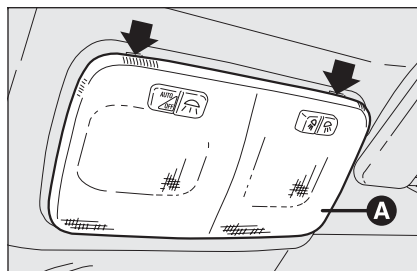
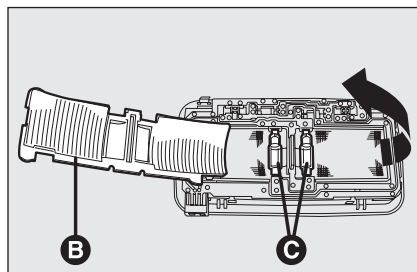

fig. 34
fig. 35
- ☐ work in the points shown by the arrows and remove light **A**-fig. 34;
- ☐ open the protection lid **B**-fig. 35;
- ☐ replace bulbs **C**-fig. 35 releasing them from the side contacts; make sure that new bulbs are correctly clamped between contacts;
- ☐ re-close the lid **B**-fig. 35 and secure light **A**-fig. 34 into its housing locking it properly.